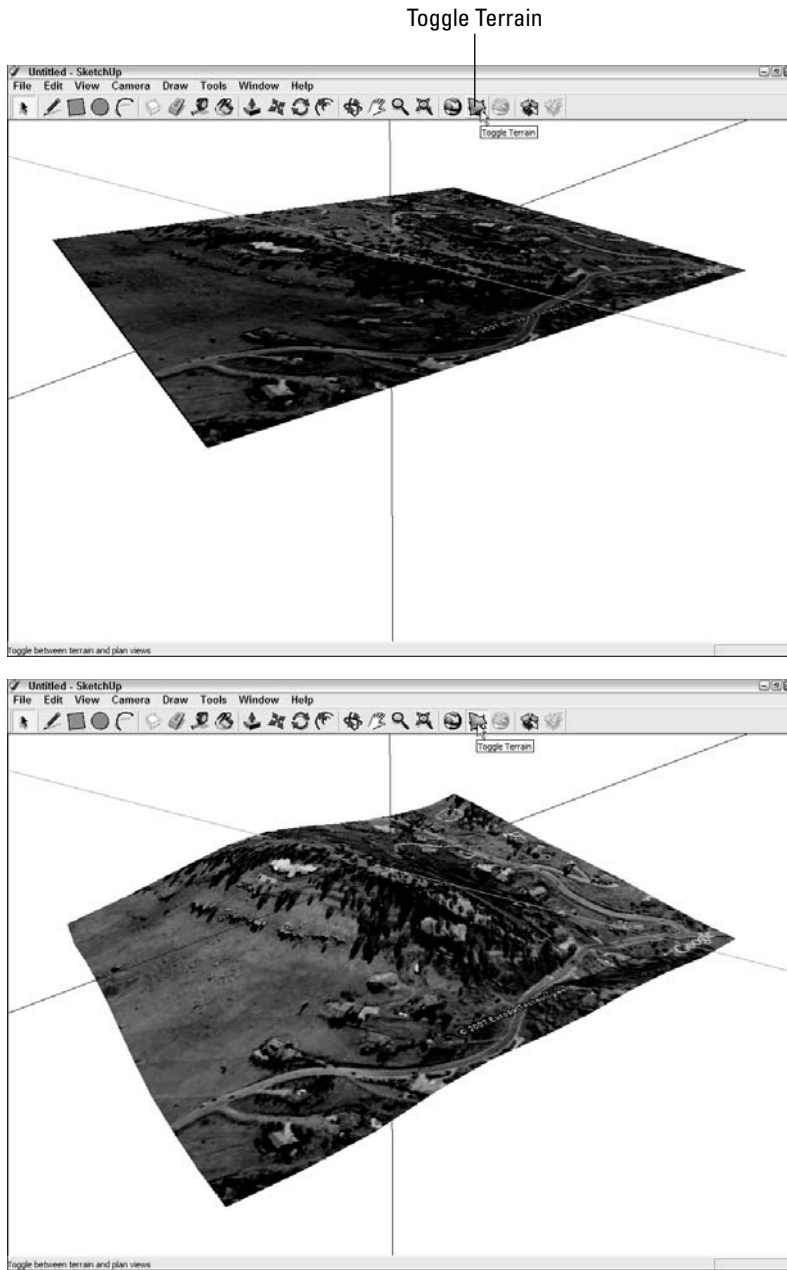

Figure 11-7: Use Toggle Terrain to switch between flat and 3D views of your Google Earth snapshot.
- ✓ **There's more to snapshots than meets the eye.** The snapshot that SketchUp imports from Google Earth is more than just a black-and-white aerial photo — it also includes a chunk of topography called *terrain*. The terrain is flat when you first import it because it's easier to build on that way, but you can toggle between flat and 3D (not flat) views by choosing Tools ⇨ Google Earth ⇨ Toggle Terrain. Don't fret if you don't see any difference when you flip between the views — you probably just chose a flat site. Figure 11-7 shows the same snapshot with terrain toggled off (top) and on (bottom).